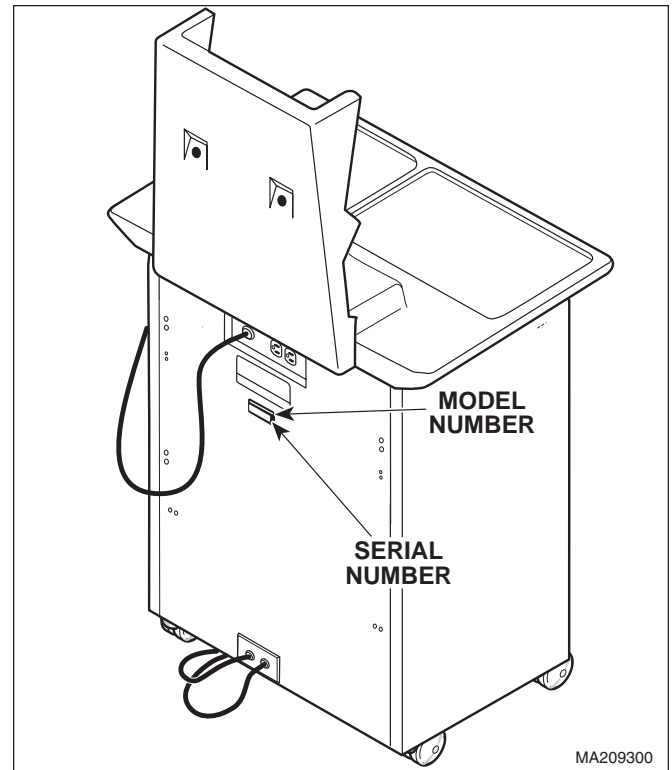

Figure 1-2. Model Number / Serial Number Location
- (1) Refer to Figure 1-2 to determine the location of the model number and serial number of the unit and record this data.
- (2) Refer to the Parts List to determine the item numbers of the parts, part numbers of the parts, descriptions of the parts, and quantities of parts needed and record this data (Refer to para 6.1).